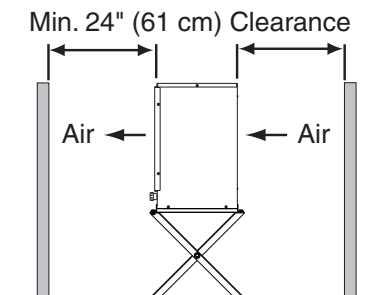

Fig. 12
- A dry and well ventilated area with 24" (61 cm) clearance at front and rear for proper air circulation and ease of maintenance and/or service should they be required. See Fig. 12.